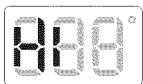

Fig.1
1. Press **SLOW COOK** to choose the Hi option -Fig. 1-